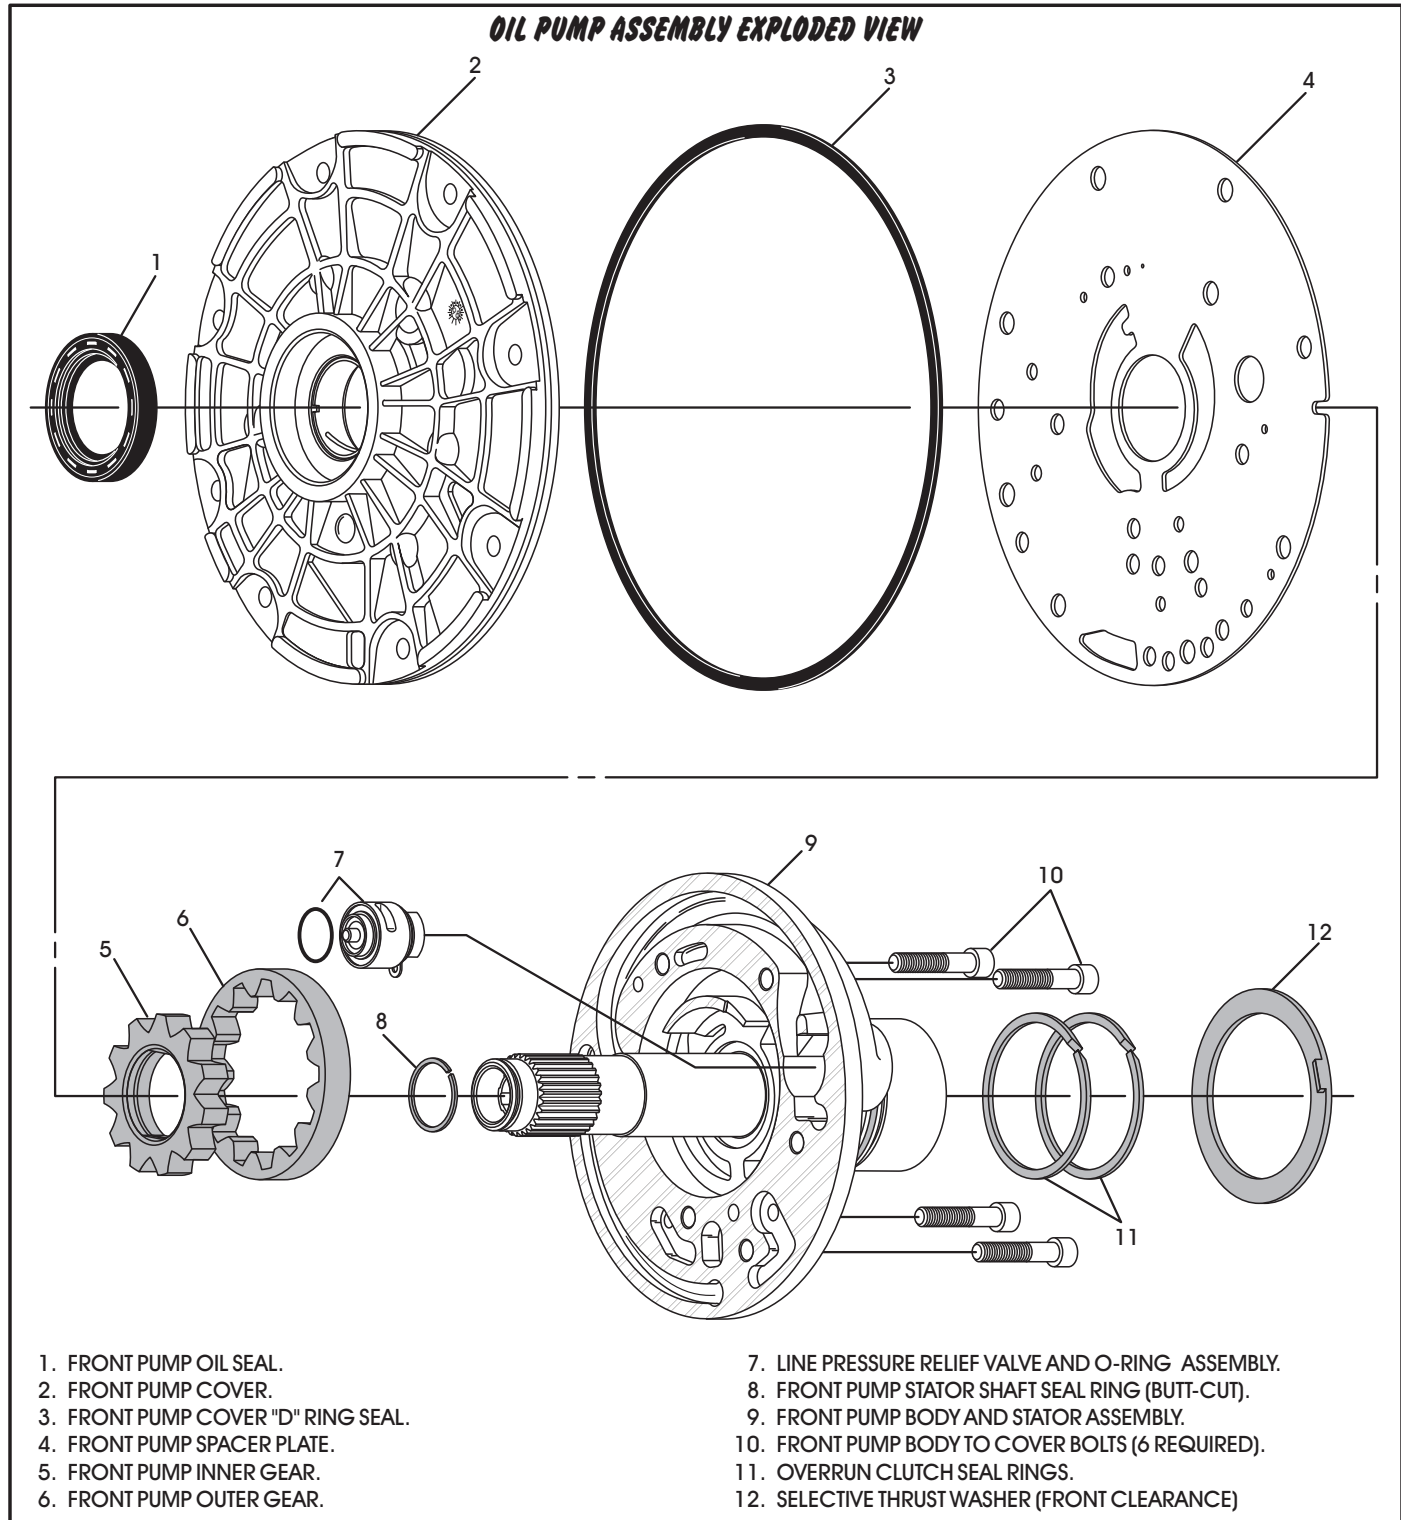

Figure 54
1. Disassemble the oil pump assembly using the illustrations in Figure 54 as a guide.
2. Remove and discard the converter seal and all sealing rings (See Figure 54).